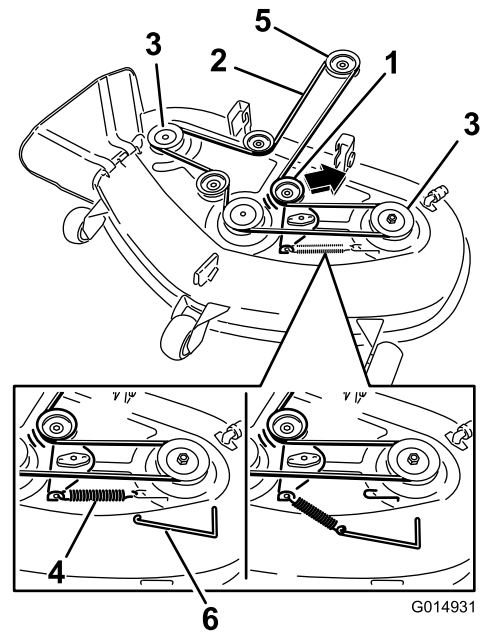

Figure 57
4. Using a spring-removal tool (Toro part no. 92-5771), remove the idler spring from the deck hook to remove tension on the idler pulley, and roll the belt off of the pulleys (Figure 57).
5. Route the new belt around the engine pulley and mower pulleys (Figure 57).
6. Using a spring-removal tool (Toro part no. 92-5771), install the idler spring over the deck hook, and place tension on the idler pulley and mower belt (Figure 57).